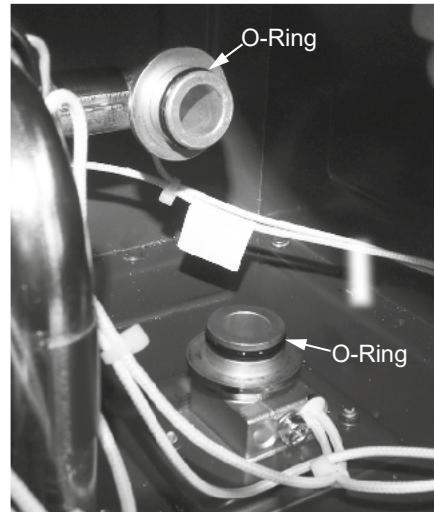

Figure 6 - Locating the O-rings
19 Locate the two (2) O-rings on the exposed water pipe connections as shown in Figure 6 and remove them and install the new O-rings. Dispose of the old O-rings properly. See Figure 6.